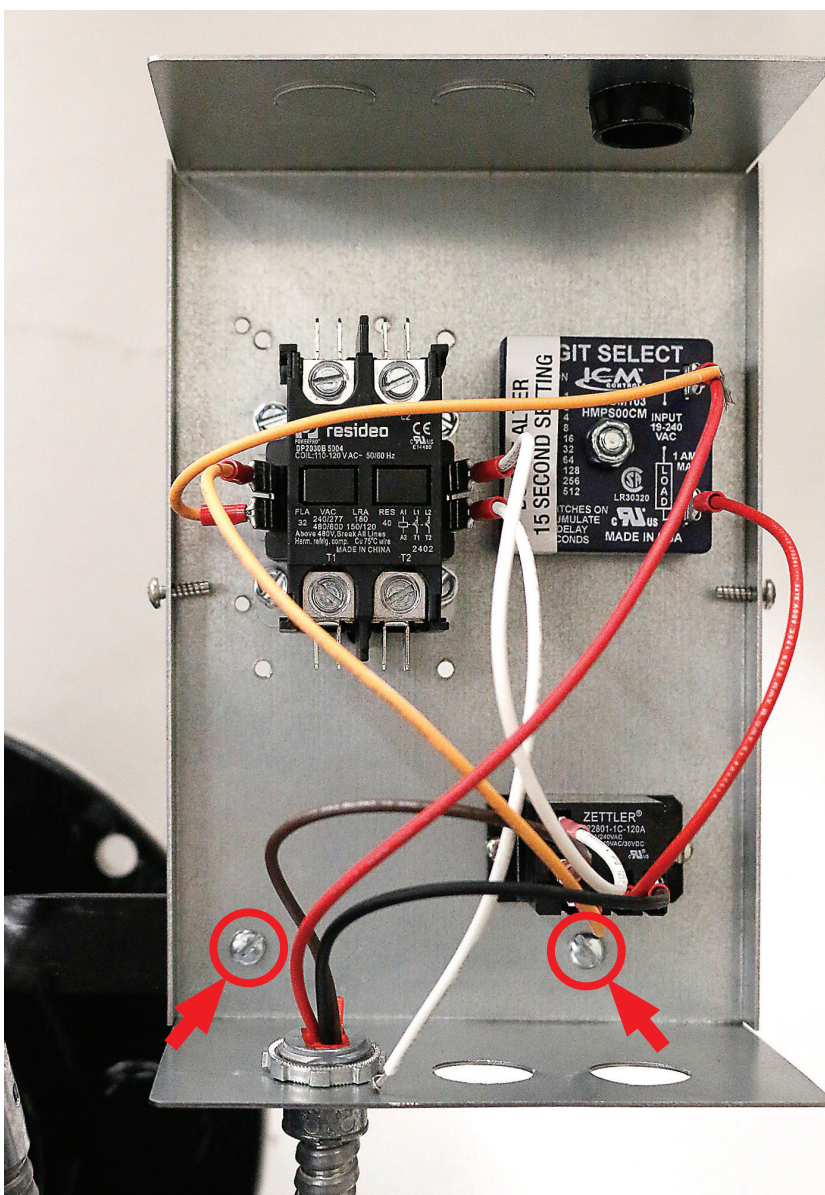

FIG. 1
- 4 Remove the mounting bracket that holds the existing contactor enclosure from the burner chassis. Remove the enclosure from the bracket, reserving the two flat head screws that will be used to install the new enclosure (See Fig. 1).